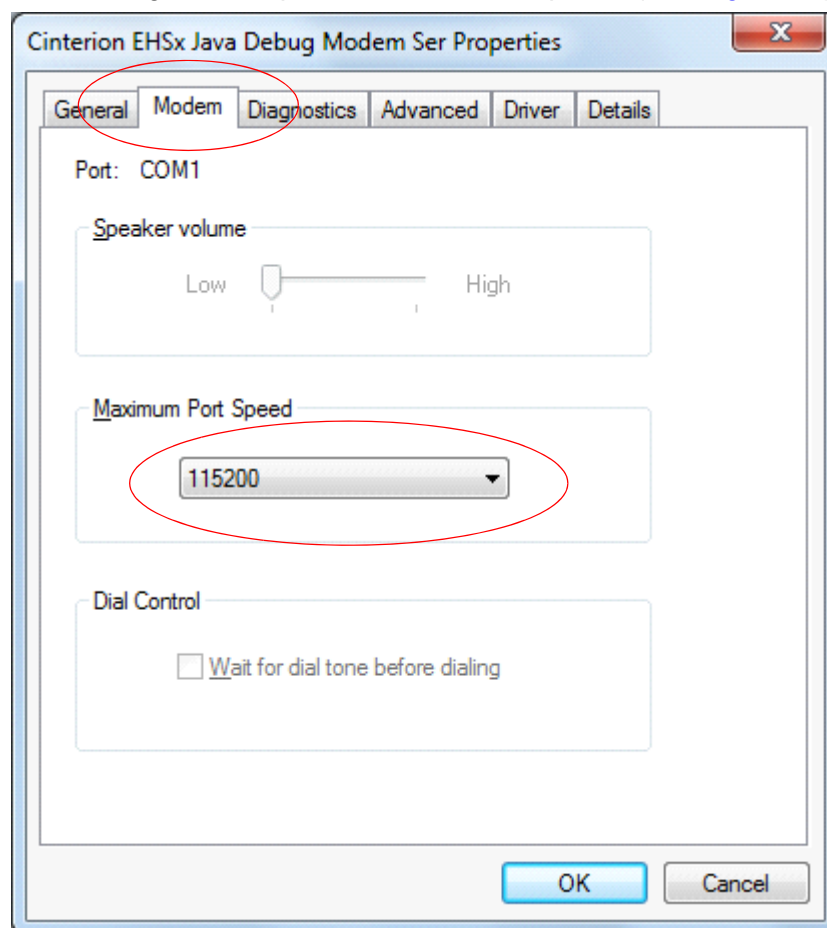

Figure 19: Specify maximum port speed for modem device
- First, the baud rate of the modem device "Cinterion EHSx Java Debug Modem Ser" has to be set to the required maximum port speed. The modem properties are available via the Windows device manager or the phone and modem options (see Figure 19).